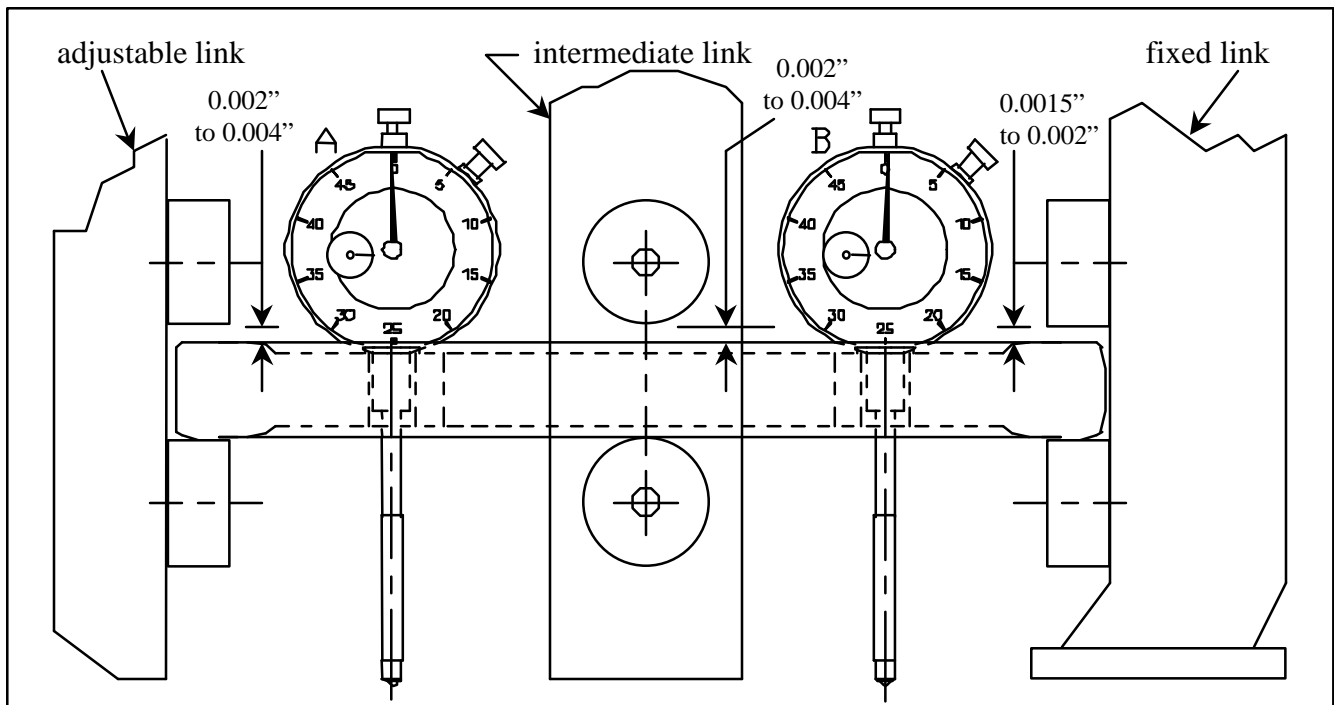

Figure 3.10 : Mold roller clearances
3. The top roller on the adjustable link (Photo C, item 1), the bottom roller on the fixed link (Photo C, item 2), and both the top and bottom rollers on the intermediate link (Photo C, items 3 and 4 respectively) have eccentric mounts. Turning these rollers will change the distance between the mold roller sets. When adjusting the clearance between the intermediate link roller set, use the top roller (Photo C, item 3). **Note:** It is very important to have the proper clearance between the fixed link rollers (Photo C, item 2). If proper clearance is not achieved, the zero degree position reading in section 6.2 will be incorrect. Figure 3.10 below shows the proper clearances for all three roller sets.